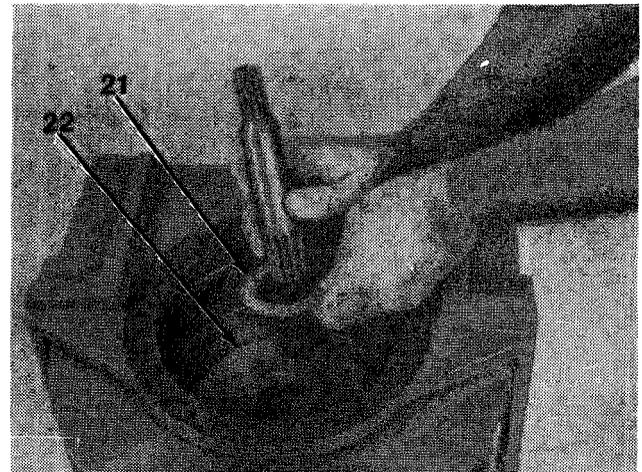

Figure 16-8
14. Remove thrust ring (21) from primary planet carrier (22, Figure 16-8).